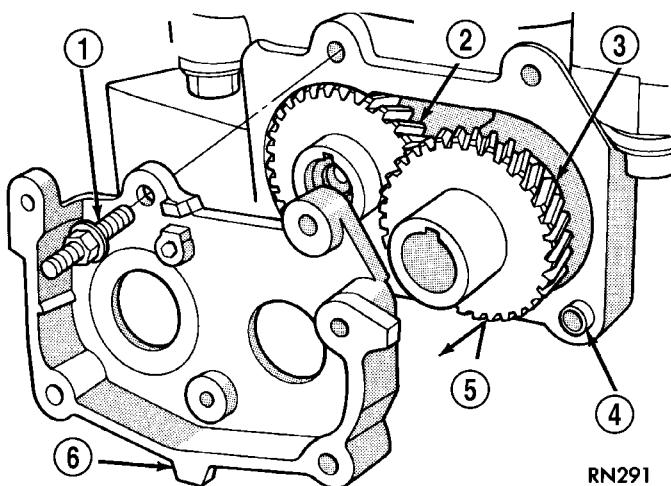

Fig. 137 Gear Cover and Gears
- (6) Using two wide pry bars, work the crankshaft sprocket back and forth until it is off the crankshaft-shaft.
- (7) Remove gear cover retaining stud (double ended to also retain chain guide). Remove cover and balance shaft gears (Fig. 137).